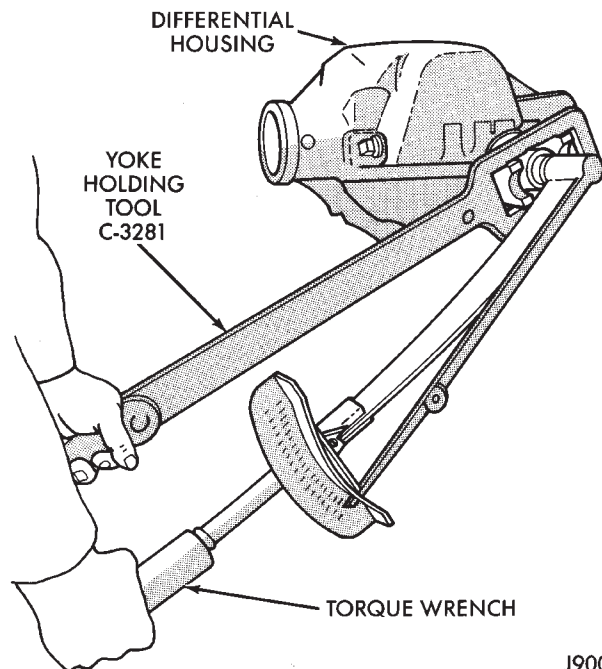

Fig. 5 Tightening Pinion Shaft Nut
(6) Use Flange Wrench C-3281 to retain the yoke and shaft (Fig. 5). Tighten the shaft nut in very small increments.
(7) Continue tightening the shaft nut in small increments until the correct bearing preload torque is attained.